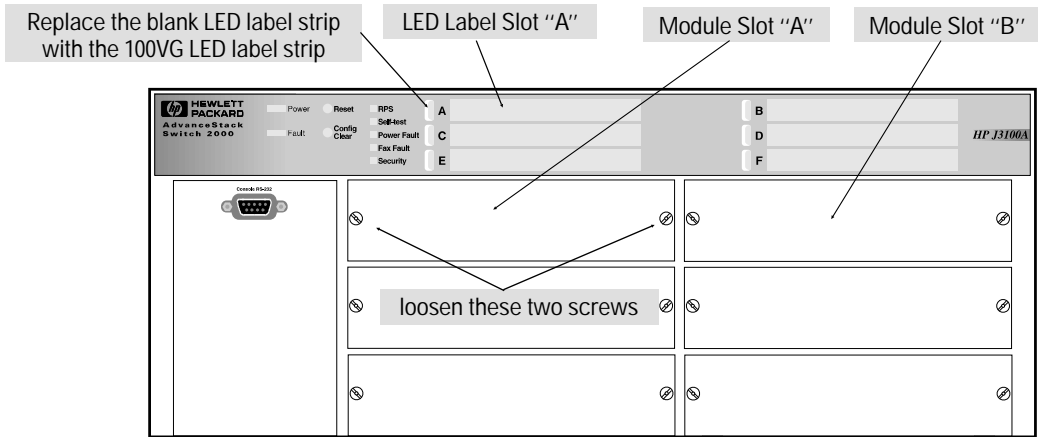

Figure 1. Remove the Cover Plate from an Unused Switch Port
1. Slide out the blank LED label strip from the label slot corresponding to the physical slot in which you will install the module. The LED label strips have a small loop on the left end. Use your fingernail or a small implement to catch the loop and slide the label to the left and out of the label slot. Then insert the LED label strip you received with the 100VG Module. For example, if you are going to install the module in slot "A", you would replace the blank LED label strip in label slot "A" with the new LED label strip for the 100VG Module. (Refer to Figure 1, on the next page.)
2. Using a Torx T-10 or slotted screw driver, unscrew the screws in the cover plate over the slot you want to use, and remove the cover. Store the cover plate with its screws for possible future use. For example, to install a module in slot A, see Figure 1.